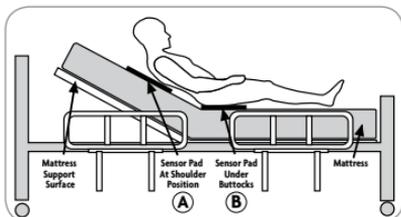

Fig. 25
- Choose a position for sensor pad (Fig. 25):